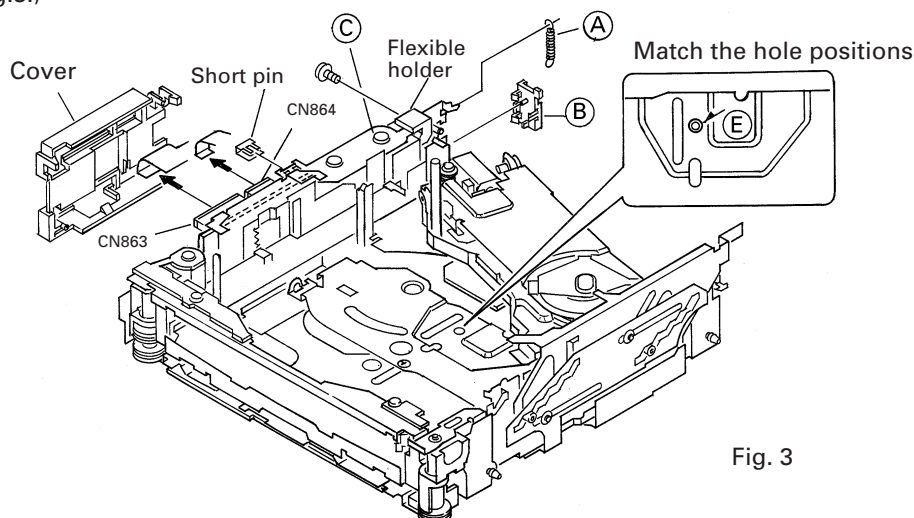

Fig. 3
5. Rotate the Cam gear motor until the positions of all holes (E) match, then stop the motor. (The Carriage Mech assy will stop as shown in the Fig.3.)
8. Remove the flexible PCB (C) from the motor. (The flexible PCB (C) has been stuck on the motor with double-sided adhesive tape.)
1. Insert a short pin into the Pickup flexible PCB. (See Fig. 3)
Remove the Cover from the Side PCB. (See Fig. 3)
Disconnect the flexible PCBs from the connectors CN863 and CN864. (See Fig. 3)
1. Insert a short pin into the flexible PCB of the Pickup unit.(See Fig. 3)